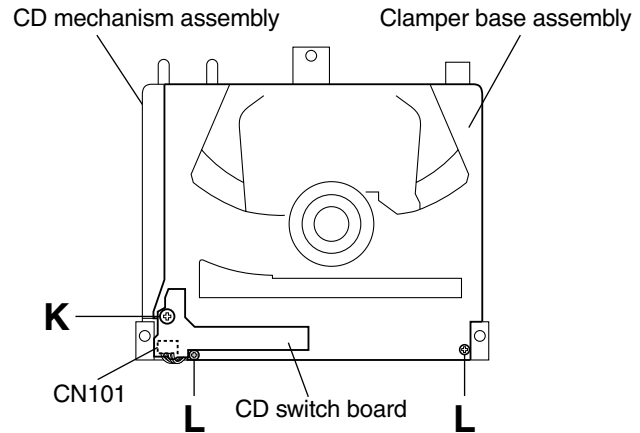

Fig.10
■ Removing the CD switch board (See Fig.10.)